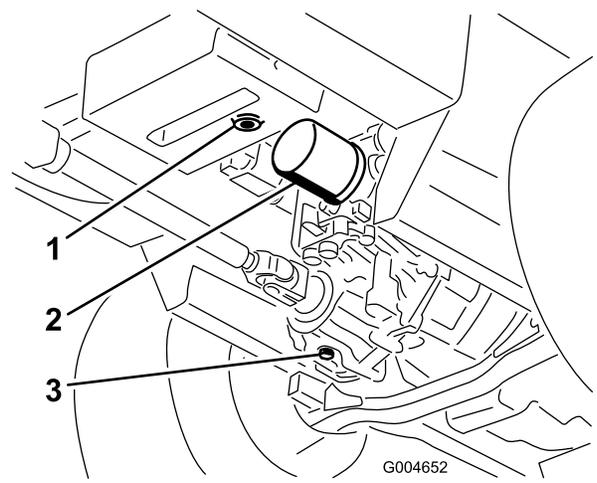

Figure 64
4. Clean the area around the hydraulic oil filter and remove it (Figure 64).
3. Place a large pan under the hydraulic reservoir and transmission case and remove the plugs, draining all of the hydraulic fluid (Figure 64).